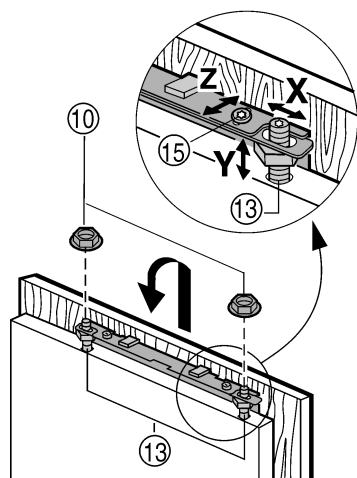

Fig. 20
- ▶ Attach the unit door on the adjusting bolts Fig. 20 (13) and loosely screw locknuts Fig. 20 (10) onto the adjusting bolts.
- ▶ To align the unit door in the Y direction (height) and in lateral inclination: Adjust the adjusting bolts Fig. 20 (13) with a screwdriver.
- ▶ Tighten the locknuts Fig. 20 (10).